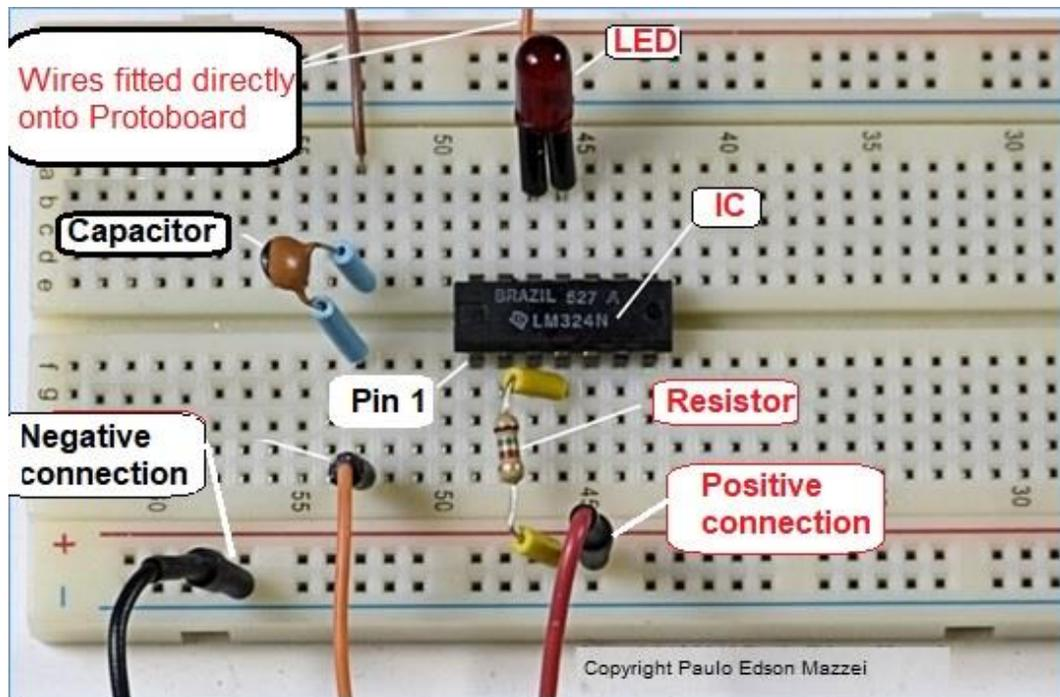

Figure 52 - Correct assembly of components in Protoboard. See text.
- d. The other ends of the two probes go to the terminals of the DMM or VOM. See **figure 52**. Inserting components in Protoboard
- e. If necessary, insulate the terminals of the components with small pieces of colored wire covers (see **figure 52**).